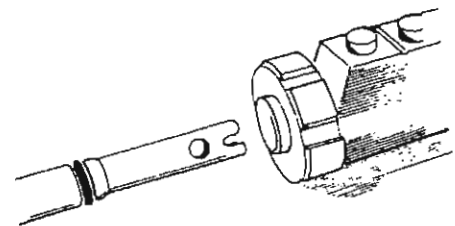

Figure 2-4. Cutter/bur receptacle alignment.
*a.* Align a cutter and bur drive coupling with the receptacle on the handpiece as illustrated in figure 2-4, making sure the key portion of the cutter/bur is placed into any of the four slots.